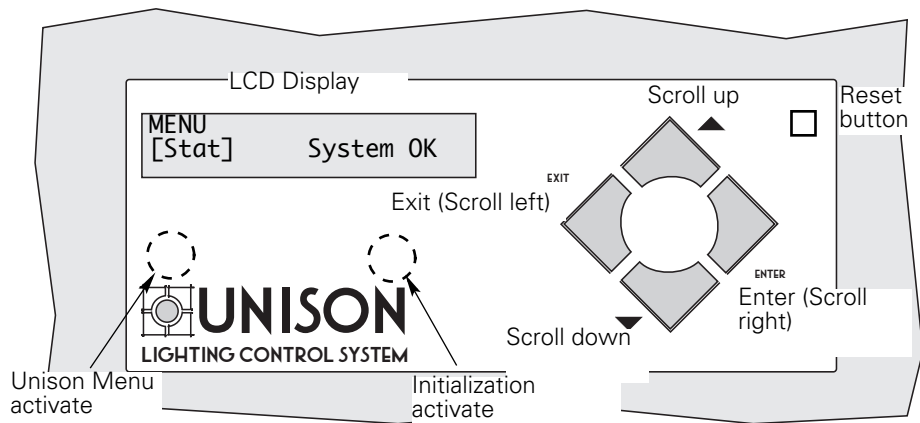

Figure 1: Control module interface for the Dimmer Menu
1. Press the concealed menu activate button for three seconds. Menu screen will appear. See *Figure 1* for concealed button.